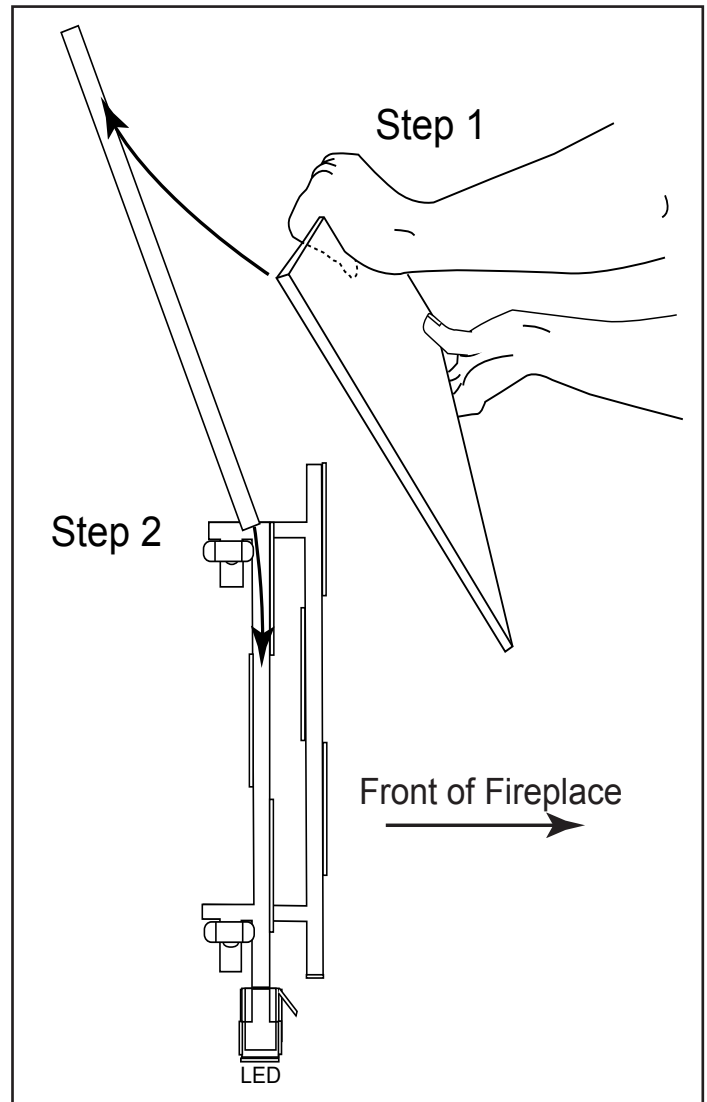

Fig. 34 Installing windshield into clips (glass holders).
- Using gloves carefully lift one glass panel, into the fireplace opening, over top of the glass clips, and slide it down into the metal retainer clip, supporting the glass at the top and bottom as you handle it. See Fig. 34
- Install the second glass pane in the same manner as described in Fig. 34.